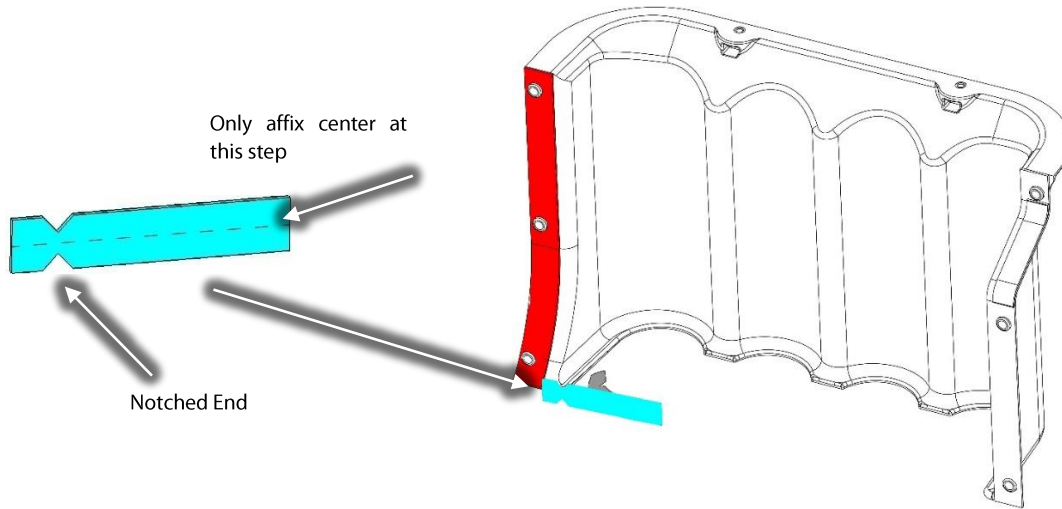

Figure 6 – Capacitor Cover Sealing Foam Lower Right
- Obtain the longer (approximately 83 mm long) Capacitor Cover Sealing Foam Lower Right and remove a small portion of the adhesive backing at the notched end and install the shorter Capacitor Cover Sealing Foam Lower Right. It is important to begin where this foam meets the previously installed foam. This new foam must be installed against the existing foam. Refer to Figure 6 (Capacitor Cover Sealing Foam Lower Right).